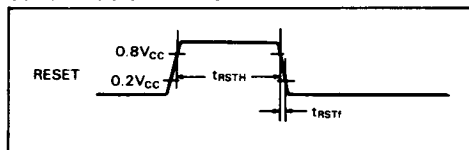

Figure 55. Reset Timing
- See figure 55.
- Notes: 1. See figure 55.